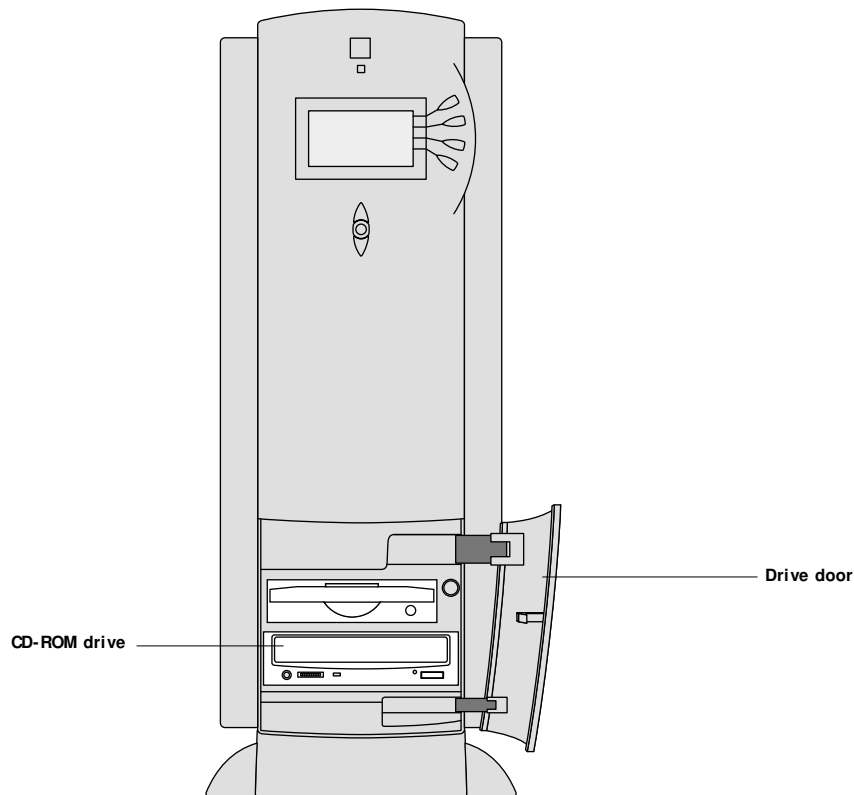

FIGURE 4-32 E-800A CD-ROM drive
2. Attach the four screws that secure the ZIP drive to the bracket (see Figure 4-32).